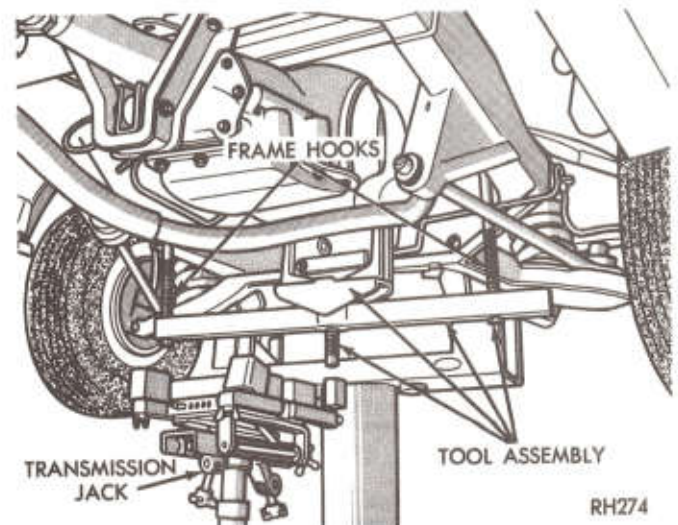

Fig. 1—Engine Support Fixture (Typical)
(15) Disconnect throttle rod from lever at the left side of transmission. Remove linkage bellcrank from transmission, if so equipped.
(16) Remove oil filler tube and speedometer cable.
(17) Install engine support fixture, Tool C-3487-A with frame hooks or a suitable substitute, that will support rear of the engine (Fig. 1).
(18) Raise transmission slightly with service jack to relieve load on the supports.
(19) Remove bolts securing transmission mount to crossmember and crossmember to frame, then remove crossmember.
(20) Remove all bell housing bolts.
(21) Carefully work transmission and torque converter assembly rearward off engine block dowels and disengage torque converter hub from end of crankshaft. **Attach a small C-clamp to edge of bell housing to hold torque converter in place during transmission removal.**